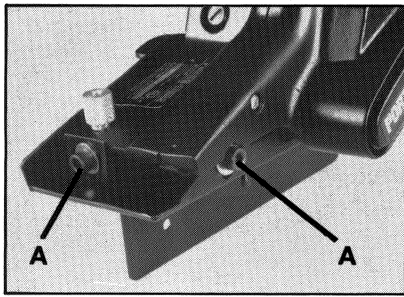

Fig. 2
2. Loosen two base adjustment locking screws (A) Fig. 2.
5. Firmly tighten two base adjustment locking screws (A) Fig. 2.